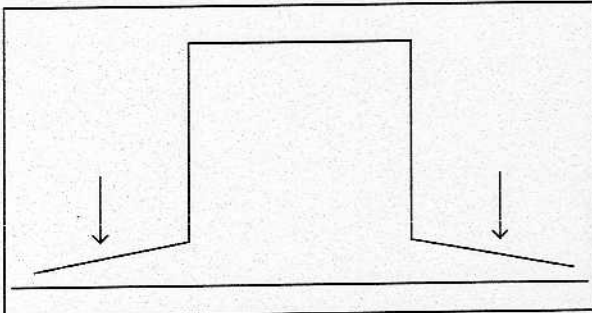

Fig. 28
- o) Reconnect the digital drive source and apply pre-correction to the IOT to optimise the shoulder amplitude and other parameters (see Fig. 28). Further fine-tuning may be necessary to achieve optimum results.